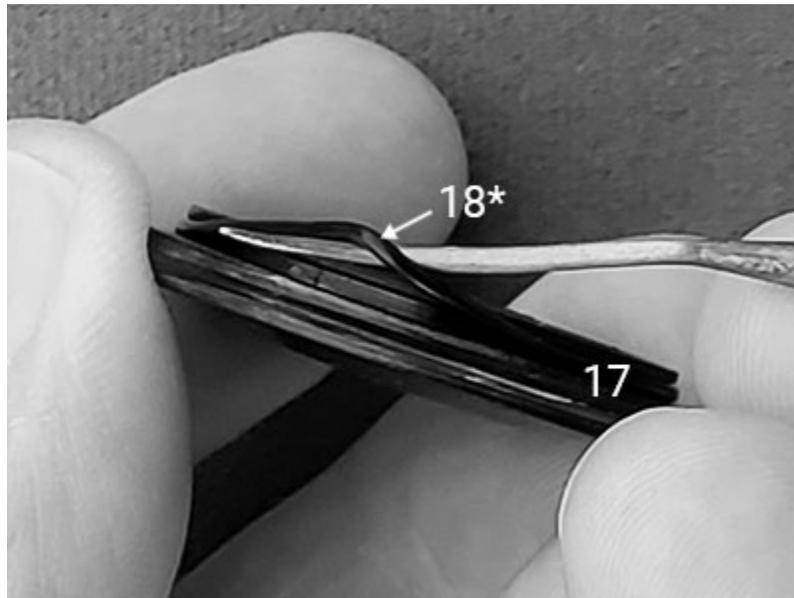

Fig. 13
10. Use a thin brass pick to remove the Exhaust Retainer O-ring (18*) - Fig. 13.